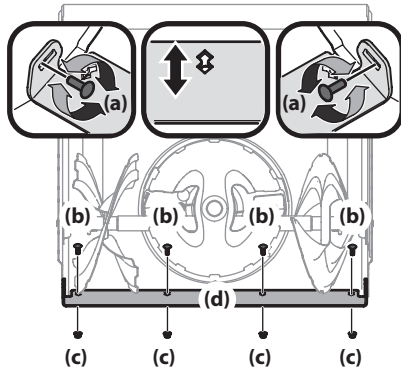

Figure 2-55
3. Loosen rear skid shoe bolts (a) on both sides of auger housing and remove carriage bolts (b) and hex nuts (c) which attach shave plate (d) to the bottom of the auger housing. See Figure 2-55.
4. Adjust the shave plate to one of 2 mounting positions. Reinstall and tighten the carriage bolts (b) and hex nuts (c) all bolts securely. See Figure 2-55.